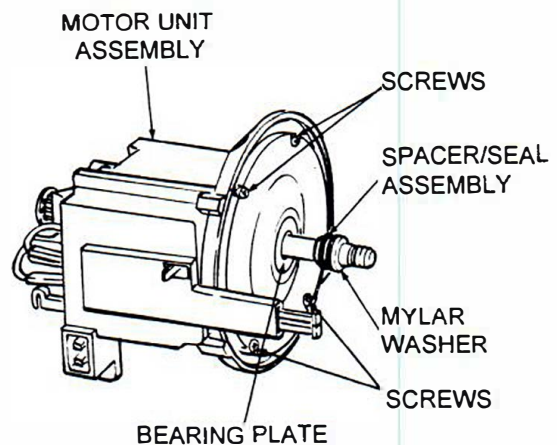

Figure 25. Spacer/Seal Assembly
- 2. See Figure 25. Install spacer/seal assembly with flat side of seal toward spacer shoulder and tapered side of seal toward bearing plate.
- C. See Figure 25. Remove four bearing plate screws and nuts from motor unit assembly.
2. See Figure 25. Install spacer/seal assembly with flat side of seal toward spacer shoulder and tapered side of seal toward bearing plate.